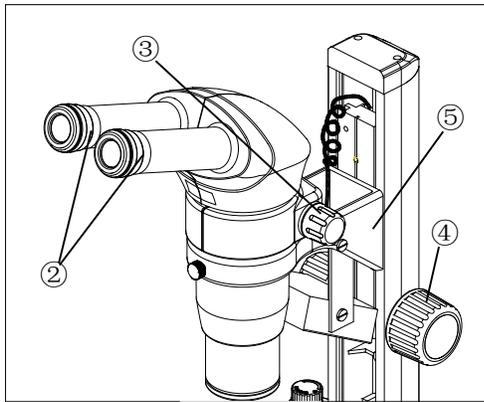
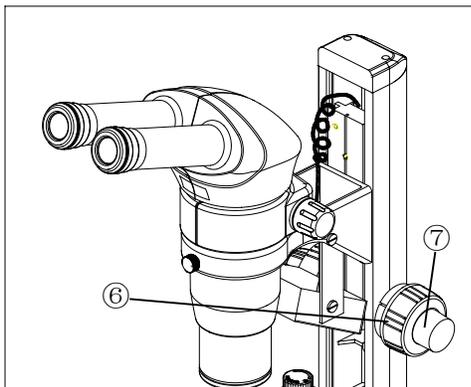

Fig. 11
Fig. 12
#### 3.1.2. Adjusting diopter ring (Fig. 11, Fig. 12)
3. Rotate the zoom body knob (3) to the highest magnification 5× (or 6.4×, or 10×), and turn the focusing knob (4) to focus the specimen.
4. Rotate the zoom body knob (3) to the lowest magnification 0.8×, looking only into the left eyepiece, adjust the diopter ring on left eyepiece to focus the specimen. Then do the same thing for the right one.
5. Repeat item 3 and 4 until the specimen image can always focus without any adverse effect of the changes of magnification on the definition of the image.
**Fig. 11 shows the focusing part of Stereo Microscope NYMCS-360/361;**
**Fig.12 shows the focusing part of Stereo Microscope NYMCS-361. There are coarse focusing knob (6) and fine focusing knob (7) in this kind of microscope.**
When 2× objective is chosen, it is necessary to mount the binocular head bracket (5) onto the lower position. Remove the clamping bolt with provided hexagonal driver and move the bracket down to the lower position and set it with original bolt (Fig. 11).